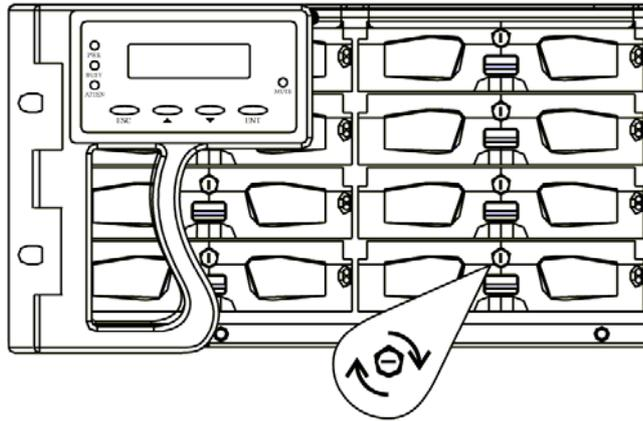

Figure 2-19: Drive Tray Key-lock Rotation
Step 5. Lock the flap into place. To lock the flap into place, turn the key-lock until the groove on its face is in a vertical orientation. (See *Figure 2-19*)